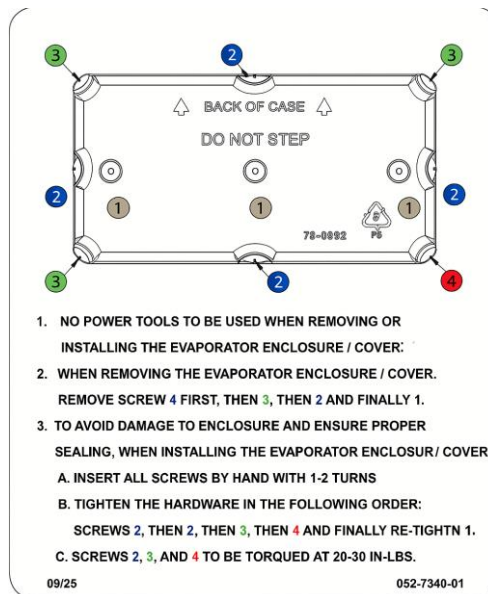

Figure 5: Insulator Box Assembly Instruction
- If servicing a component related to the evaporator or under the insulator box, use the instructions in Figure 5.